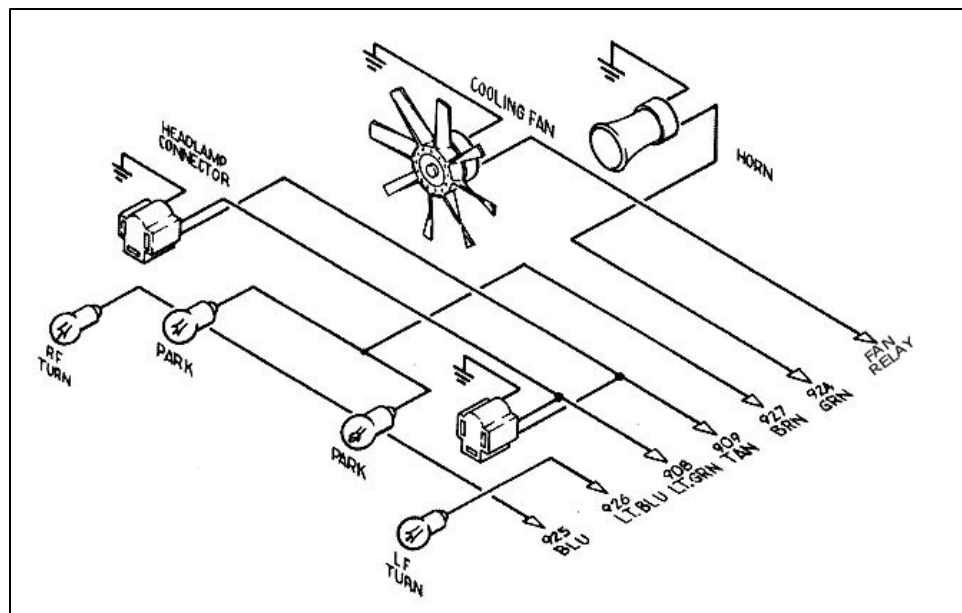

Figure 8-1 HEADLIGHT SECTION A Wiring
8.0 HEADLIGHT SECTION A. See Figure 8.1